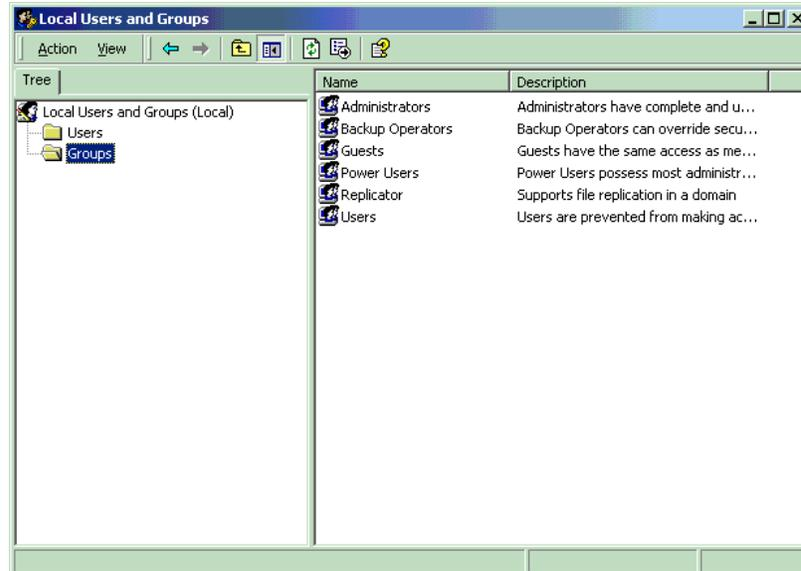

Figure 14. Local Users and Groups Window with Groups Folder
5. Double-click the Groups folder. A list of groups appears in the right region of the window (Figure 14).